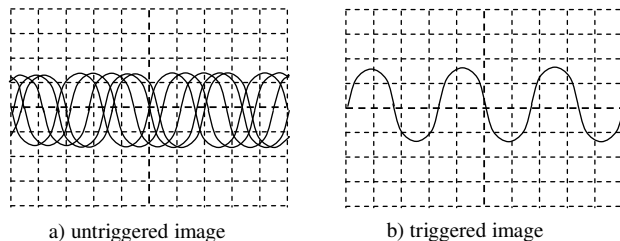
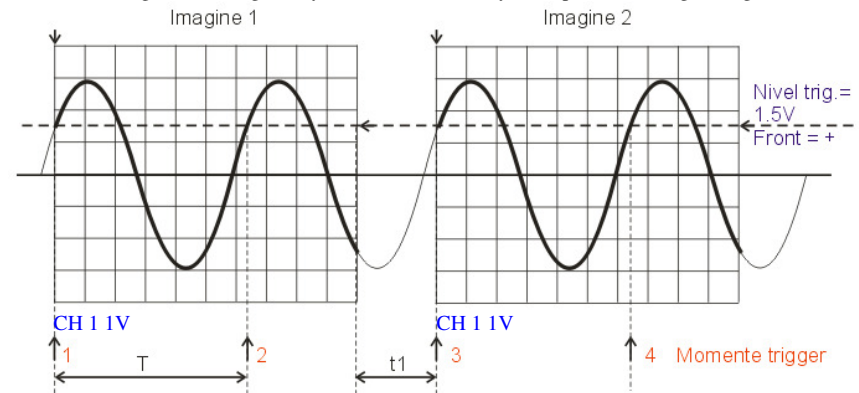

Figure 1
Figure 2 Trigger example
Therefore, in order to obtain a triggered image one has to specify which „event“ defines the beginning of the image. This event is characterized by a *level*, also called threshold voltage, which represents the value of the signal at the desired moment (e.g. 0V for figure 1b), and by a *slope* that may be rising or falling; in fig. (1b) the slope is rising; The trigger moment is marked in Fig. 1 by the arrow at the leftmost side of the image, and the threshold voltage is marked by the arrow at the right of the screen.
Example: Consider the sine wave of period T in Fig. 2, with an amplitude of 3V, (setting $C_y = 1V/div \rightarrow$ the amplitude occupies 3 divisions). The trigger level is chosen at 1.5V, rising slope. This trigger condition appears only once every period and corresponds to moments in time denoted as 1,2,3,4 in Fig. 1. The first trigger moment (1) determines the beginning of the image display, which lasts for $N_{X\max} \cdot C_x$ (for the TDS1001 oscilloscope in the lab $N_{X\max} = 10\text{ div}$). So, how much of, or how much detailed the signal is viewed on the display depends on the relation between T and $N_{X\max} \cdot C_x$. It is important to notice that during the image display (the time of $10 \cdot C_x$), the trigger is not active. Therefore, at moment (2) a new display does not start, because the current display is not finished (we can notice that we are only at 6.2 divisions from 10). After the display time ends (the bold part), an additional time t_1 passes, during which the scope does not display anything and waits for a new trigger.
Important remark: The trigger signal should not necessarily be the viewed signal as was the case in figure 1. This is obvious when 2 different signals, from the 2 inputs of the scope are displayed on the same image. Only one of them is the trigger signal!